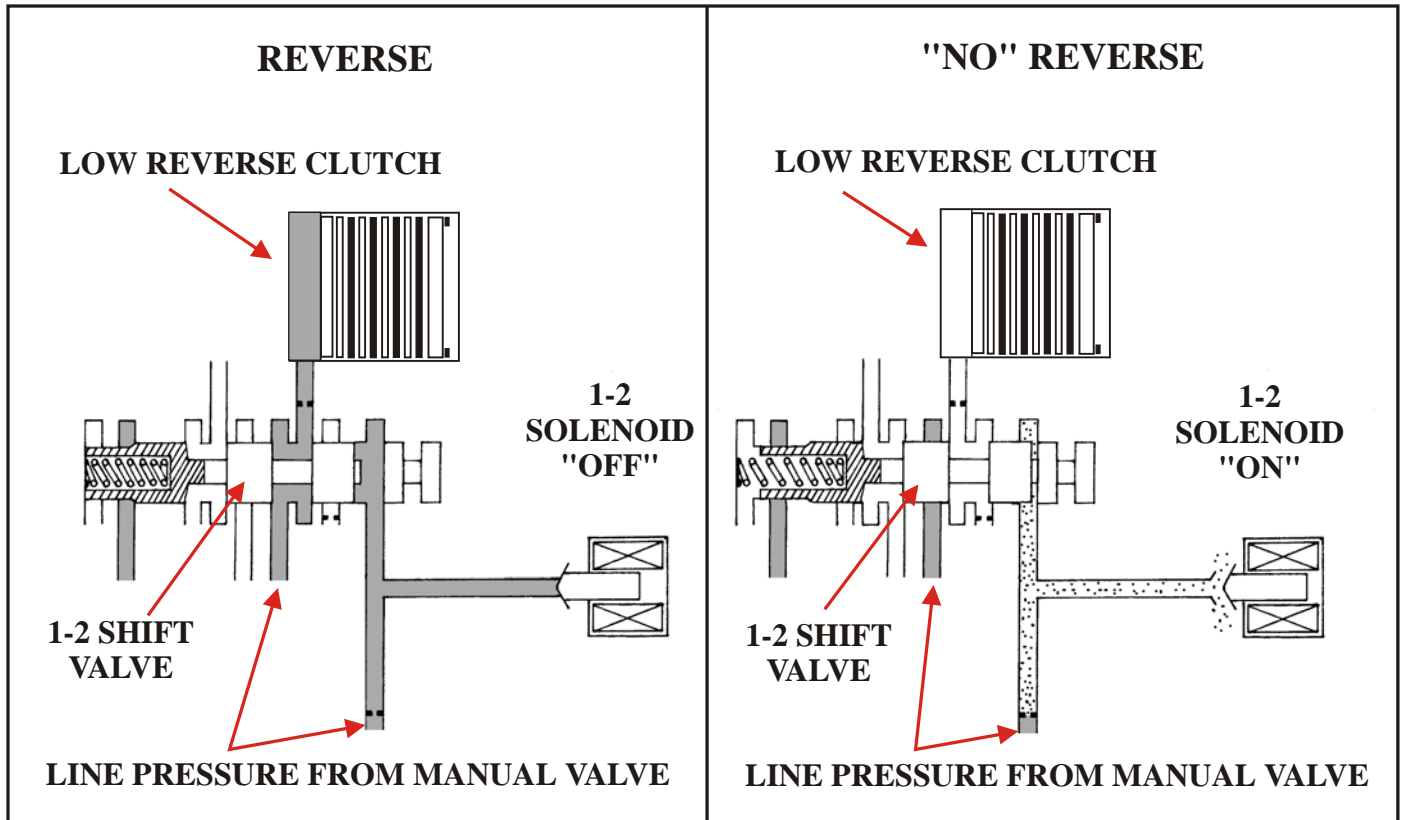

Figure 1
1. A faulty "Vehicle Speed Sensor," signaling the computer that the vehicle is in motion. At that point the computer may apply the 1-2 shift solenoid and block the passage to the "Low Reverse Clutch." (See Figure 1)
2. A stuck 1-2 shift valve or "leaky" bore plug at the end of the 1-2 shift valve, allowing the 1-2 shift valve to block the passage to the "Low Reverse Clutch." (See Figure 1) **NOTE: This may also cause 2nd gear starts in Drive.**
3. A 1-2 solenoid that is stuck open, allowing the 1-2 shift valve to block the passage to the "Low Reverse Clutch." (See Figure 1) **NOTE: This may also cause 2nd gear starts in Drive.**